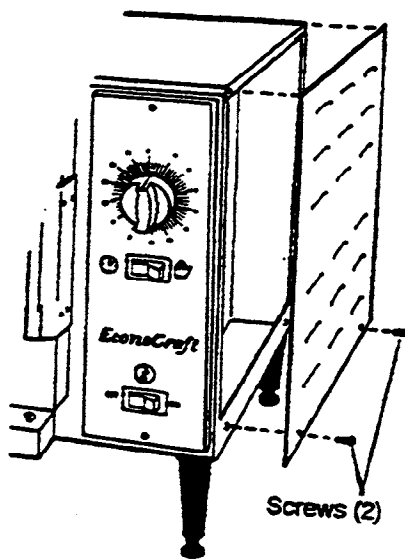

Figure 2-9. Access Panel Removal
2. Remove the access panel by removing the two screws (Figure 2-9) that hold it in place. Save the screws.
8. If no further work is required inside the access panel, such as plumbing and leak checks, secure the access panel with the two mounting screws (Figure 2-9).
2. Check all connections for proper tightness. Remove two screws to remove the access panel to inspect water connections inside the steamer; refer to Figure 2-9. Save the screws.
5. If no further work is required inside the EconoCraft at this time, replace the access panel with the two screws (Figure 2-9).